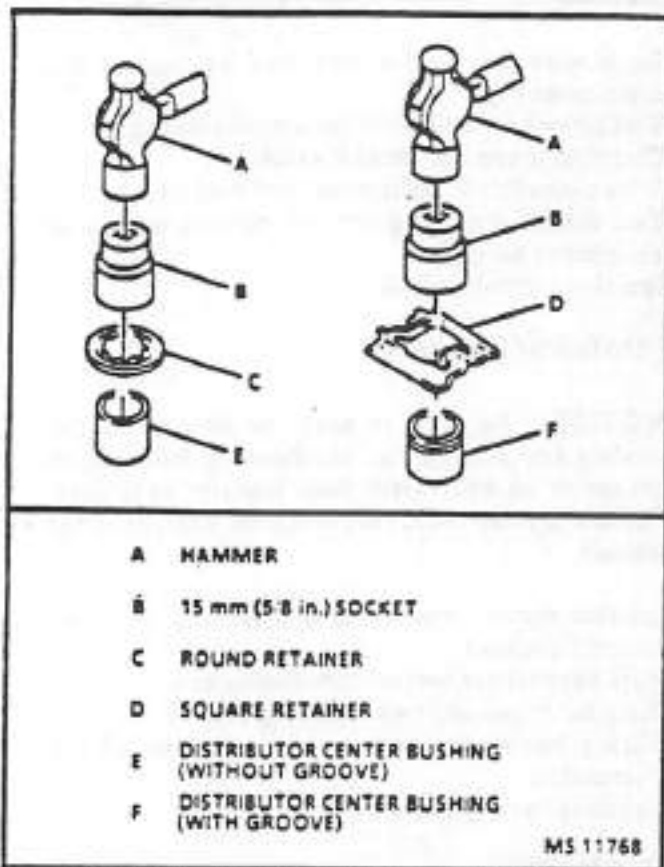

Figure 12 - Retainer to Shield Installation
1. Ignition module (10) to the housing (4) with two screws.
2. Pickup coil (7).
4. Shield (16) onto the coil.
5. Retainer (15) onto the housing (Figure 12).
6. Shaft assembly (4) into the housing (11).
7. Tang washer (12), washer (13), and driven gear (14) onto the bottom of the shaft.
8. Roll pin (15) into the gear.
9. Rotor (13) onto the shaft.